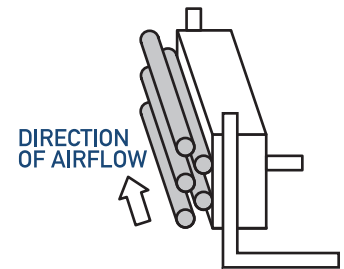

FIGURE 2 - SUGGESTED “L” BRACKET MOUNTING
- a) To mount the units inside an air handling unit, use “L” shaped brackets that are secured to the walls or floor of the AHU with sheet metal screws. The units should be installed so there is sufficient airflow across the ionization tubes, after the system filter, and not immediately downstream of the cooling coil to avoid any moisture carryover. See figure 2
- 4) It is preferable, although not mandatory, to install the units with the tubes parallel to the airflow. See figure 2